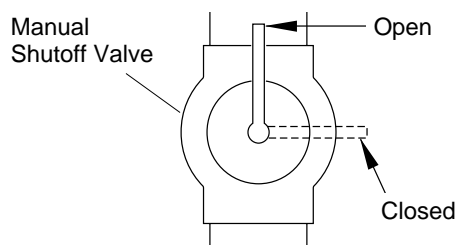

Figure 14 - Manual Shutoff Valve
1. Close manual shutoff valve (see Figure 14).
1. Open manual shutoff valve (see Figure 14).